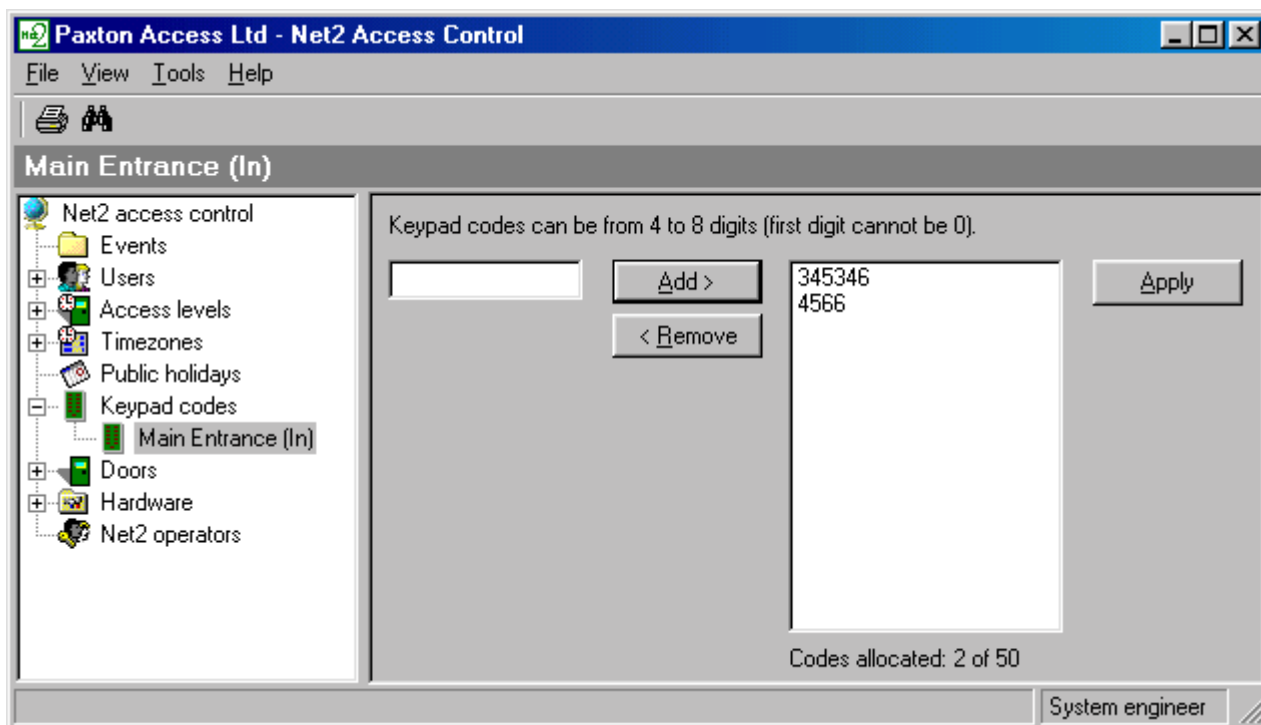

Figure 4.21
1. Select Keypad codes from the treeview window, see figure 4.21, and select the relevant door.